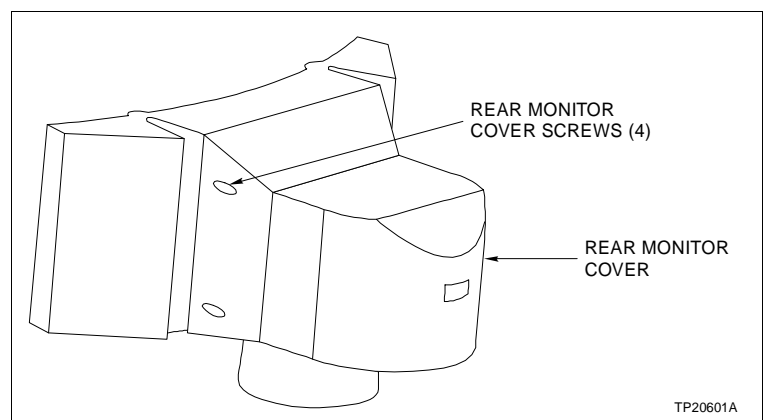

Figure PR65-1. Rear Monitor Cover
2. Use the long Phillips head screwdriver to remove the four rear monitor cover screws (Fig. PR65-1).